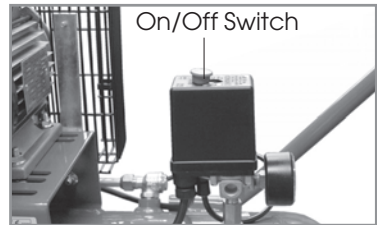

Figure 4
1. Ensure that the red On/Off switch is set to the OFF position (pressed down). See figure 4.